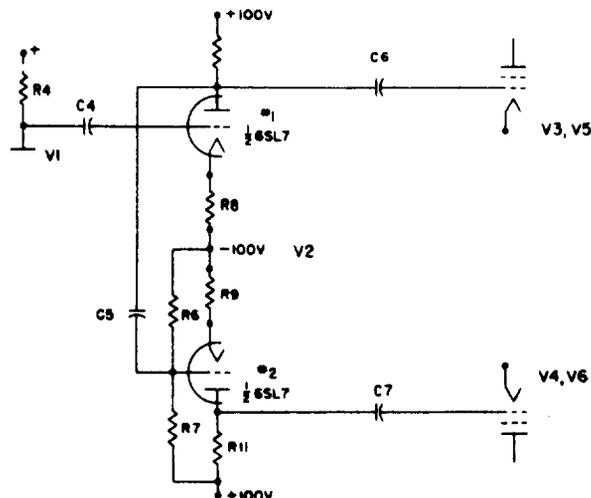

Fig. 2—Phase Inverter Schematic
2.07 The second 6SL7, V2, is a voltage amplifier which converts the single input to push-pull output to drive the push-pull power output tubes, V3, V4, V5 and V6. The circuit of V2 in which a single input is converted to push-pull output is shown schematically in Fig. 2. The two sets of elements of V2 are labeled for convenience #1 and #2. Section 1 acts as a conventional single ended amplifier and accepts the signal voltage from the plate load resistor of V1, amplifies it and supplies the driving voltage for the grids of V3 and V5. Signal voltage from the plate load resistor, of section 1 of V2 is also applied through capacitor C5 to the grid of section 2 of V2. The requirements under